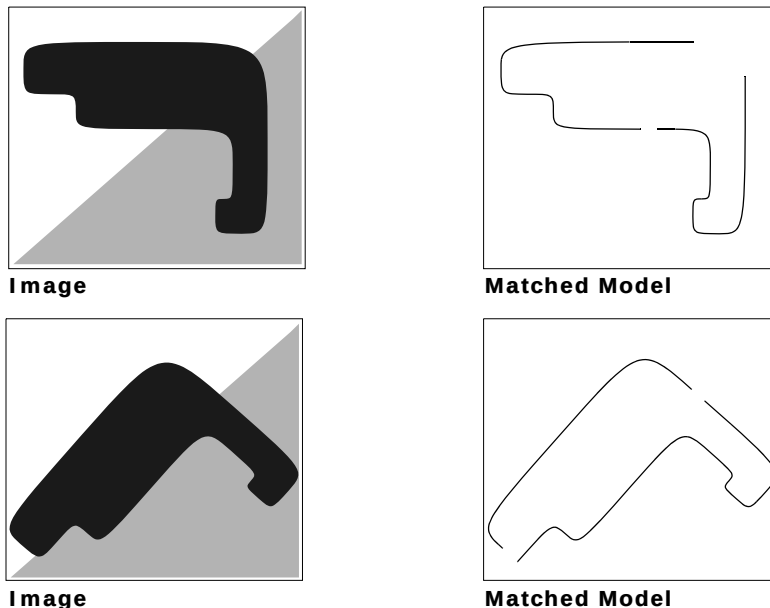

Figure 141 Examples of Matched Models on Non-Uniform Background in Runtime Images
- This unbroken representation of the part at the Outline Level will significantly improve the robustness of the Locator. In runtime images, the Locator will be able to extract a significant part of the contour geometry even though the contour is broken into smaller sections. See Figure 141.